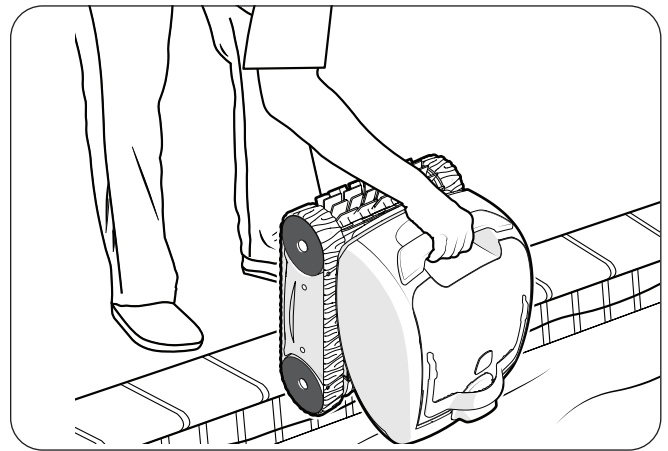

Figure 15. Lift Cleaner From Pool with Handle
1. Gently pull the floating cable to bring the cleaner within arm's reach. When the cleaner is within arm's reach, use the handle to remove from the water. Never lift the cleaner out of the pool by the floating cable (Figure 15).